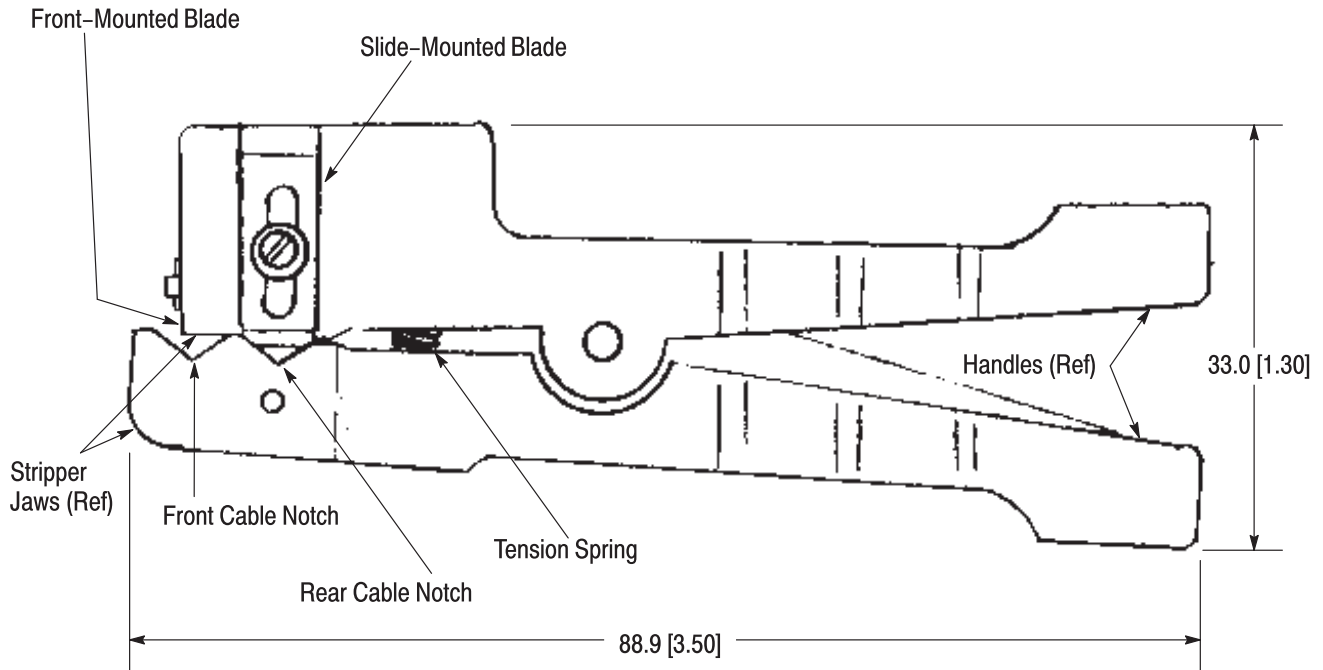

Figure 1
This instruction sheet covers the use of Fiber-Optic Cable Jacket Stripper 501198-1 which is shown in Figure 1. The stripper is supplied in several fiber-optic kits such as OPTIMATE\* Installers Kit 501258. Read this material thoroughly before proceeding.
**2. DESCRIPTION** (Figure 1)